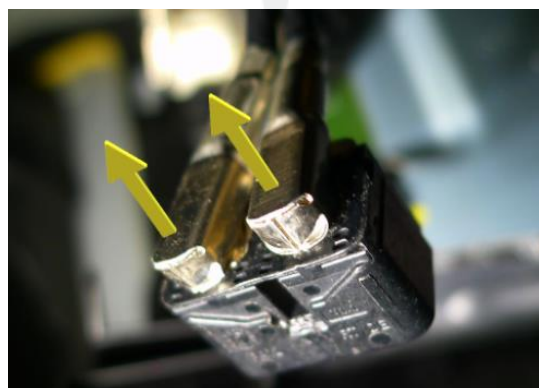

Figure 8
8. Remove both coax cables from the connector housing (Figure 8).